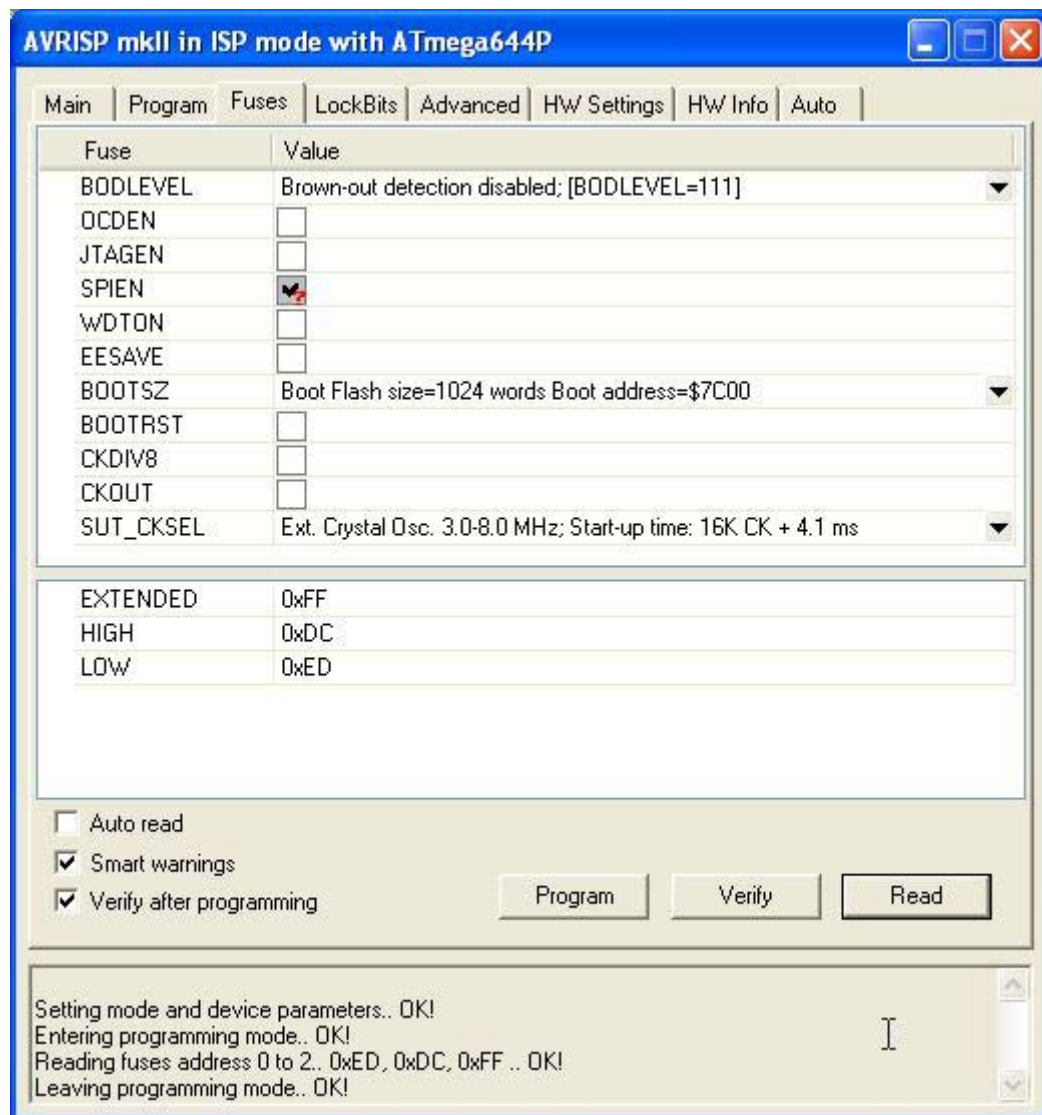

FIGURE D7: AVR STUDIO SETTINGS FOR AVRISP MK II (3 OF 4)
- k) In the window *Fuses* set the configuration fuses according to the needs of the user application. It is important to remember that those fuses influence the functioning of the Mini Module and they must be set very carefully or the whole system could work not properly. The figure D7 shows the configuration that **grifo**[®] suggests for the demo of the **GMM AM1284**, while the other supplied one, enables the Bootloader with the fuse BOOTRST.
- l) In the window *Fuses* set the configuration fuses according to the needs of the user application. It is important to remember that those fuses influence the functioning of the Mini Module and they must be set very carefully or the whole system could work not properly. The figure D7 shows the configuration that **grifo®** suggests for the **JTAGICE mk II**, while the other supplied one, enables the *OC DEN* and *JTAG EN* items. That provided from **grifo®** don't enable this interface but the Bootloader with *BOOTRST* fuse.